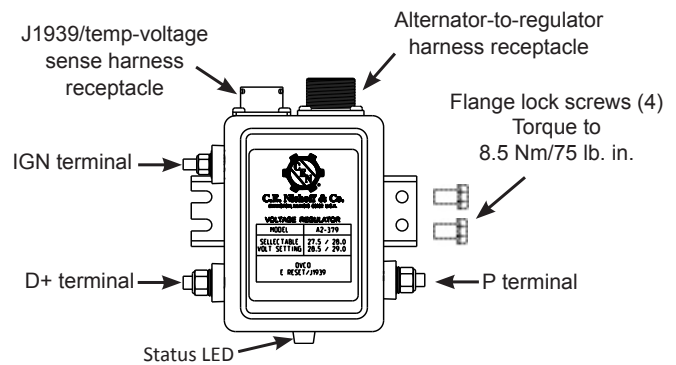

Figure 6: Smart Regulator
5. If using a J1939/temperature-voltage sense harness, plug it into J1939/sense harness connector on regulator. See Figure 6 for regulator connector location. Refer to installation instructions included with harness for more information. Harness sold separately².